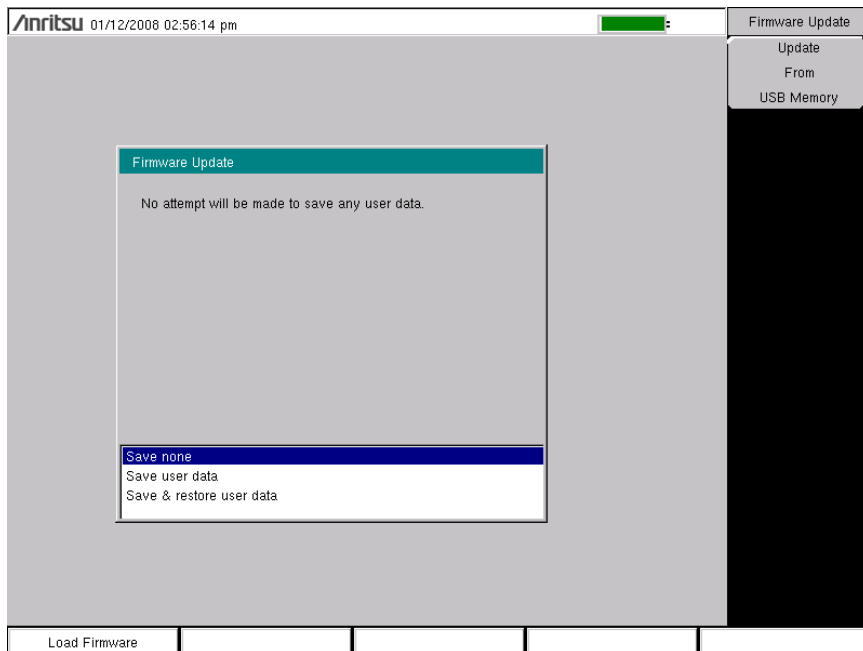

Figure 5-9. Firmware Update Menu
4. Press the Update Application Firmware submenu key and the Firmware Update dialog opens (Figure 5-9).